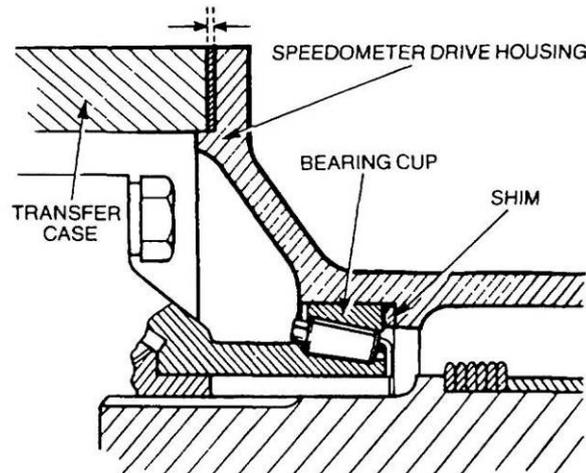

Figure 81 Differential Assembly - Pre-Load Adjustment - Sectional View
- s.** Position the speedometer drive housing, less the gasket, on the transfer case and measure the gap in at least four locations between the housing and transfer case joint faces. The measurement must be 0.1 mm (0.004 in.) more than the thickness of the gasket measured in Para 51. q. The gap can be adjusted by replacing the shim installed behind the bearing (Figure 81).
- t.** Remove the housing and install the selected gasket. Fit the eight bolts and new lock-washers and torque the bolts to 30 N.m (22 lbf.ft). With the differential lock disengaged and no oil seal fitted, the rolling resistance should be 6 to 7 kg (14 to 16 lbs). To obtain the rolling resistance, replace the shim with one of the correct thickness (Figure 81).